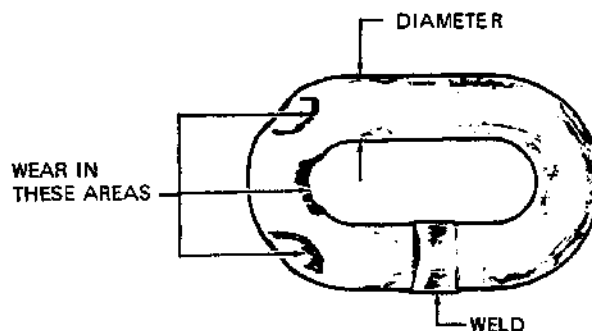

FIGURE 4-1 TYPICAL WEAR ON LINKS
- b. Inspect each link for wear to the diameter of the link (see Figure 4-1). The nominal link diameter is 0.250 inch for chain on models RA-15, RA-15-2, or RA-20 and 0.312 inch for models RA-30 and above. If the diameter of any link of 0.250 chain is worn to less than 0.200, or the diameter of any link of 0.312 chain is worn to less than 0.275, the entire chain must be replaced.